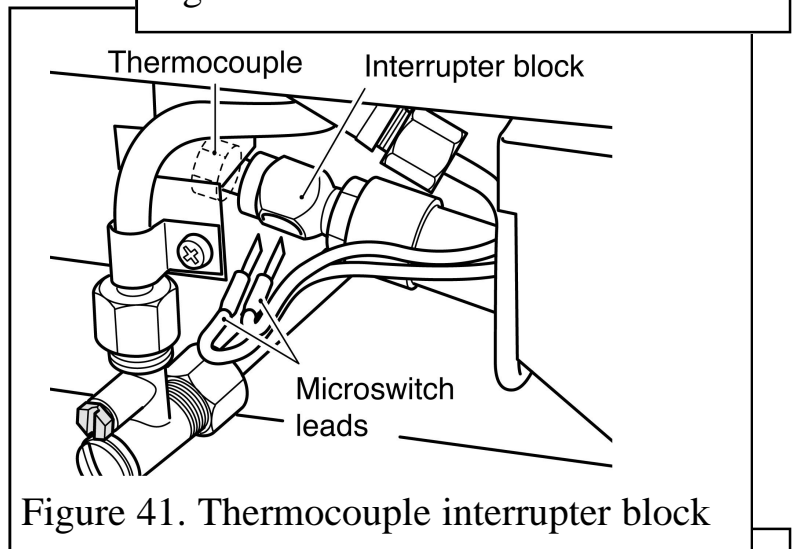

Figure 41. Thermocouple interrupter block
3. Loosen the thermocouple nut to free the microswitch leads and pull the leads clear of the thermocouple interrupter block (See figure 41).